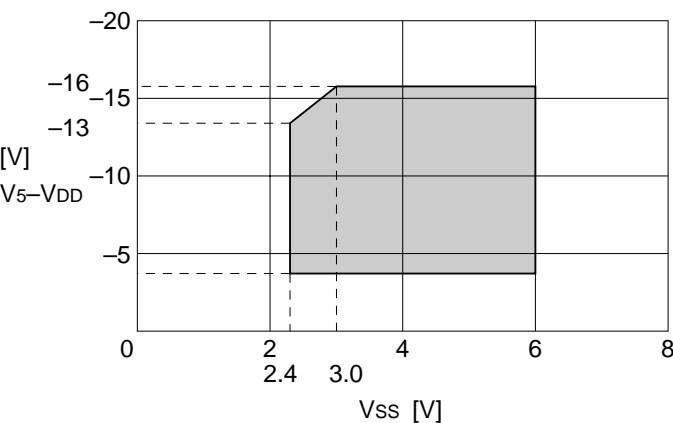

Figure 11
- *2. The operating voltage range of the VSS and V5 systems (see Figure 11). The operating voltage range is applied if an external power supply is used.
- *3. Pins A0, D0 to D7, \overline{RD} (E), \overline{WR} (R/ \overline{W}), $\overline{CS1}$, CS2, FR, SYNC, M/S, C86, SI, P/S, T1 and T2.
- *6. Pins A0, \overline{RD} (E), \overline{WR} (R/ \overline{W}), $\overline{CS1}$, CS2, CL, M/S, \overline{RES} , C86, SI, SCL, P/S, T1, and T2.
- *8. The resistance when the 0.1-volt voltage is applied between the “On” output terminal and each power terminal (V1, V2, V3 or V4). It must be within the operating voltage (2).